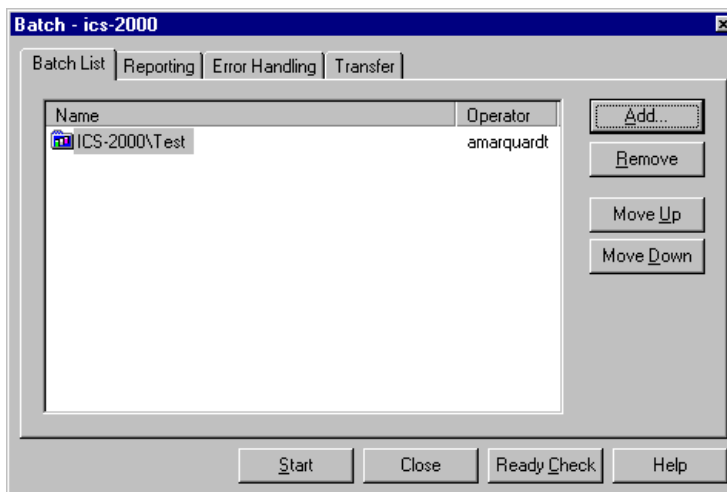

Figure 3-14. Batch Dialog Box with an Example Sequence Added to the Batch List
- Click the **Add** button on the **Batch List** tab and add the sequence you created in Step 2. See Figure 3-14 for an example.